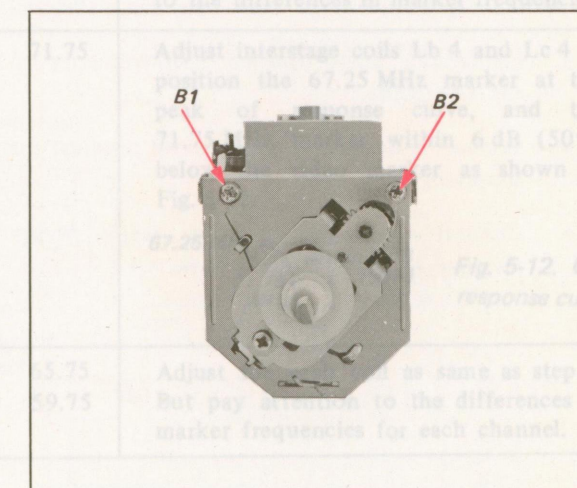

Fig. 5-6. Tuner shaft assembly removal (3)
7. Remove the two screws labeled B1-2 in Fig. 5-6.